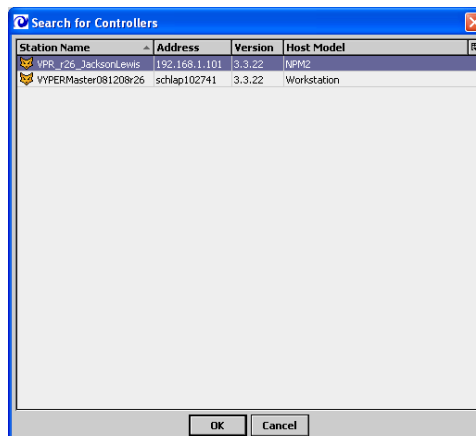

Figure 2
31. Once the desired controller is identified, double-click on the controller name to continue (see Figure 2).